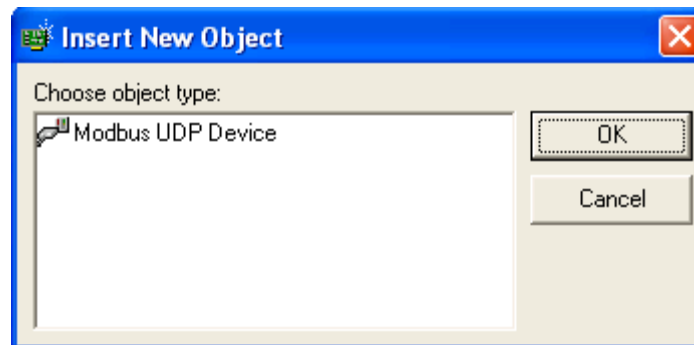

Figure 16 - Insert New Object
- The **Insert New Object** window (Figure 16) appears.